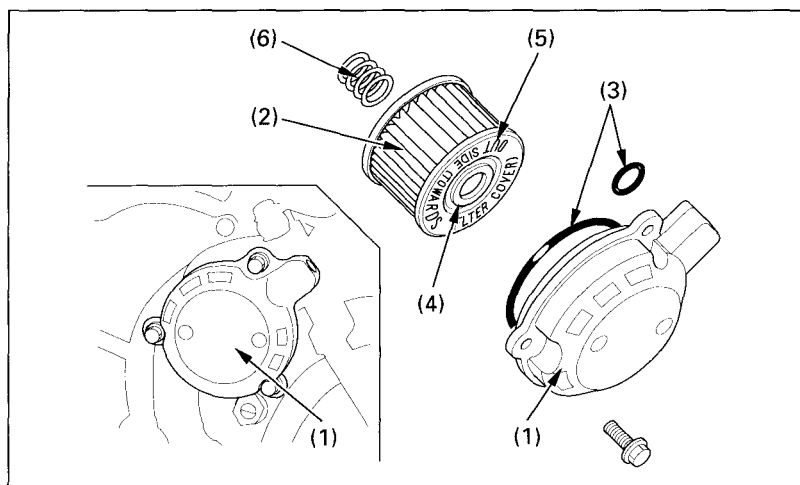

Fig. 4-14
(1) Oil drain plug
3. Remove the oil filter cover (1) (Fig. 4-14) by removing the bolts. Let the remaining oil drain out. Discard the oil filter (2).
4. Check that the oil filter cover O-rings (3) are in good condition and then install a new oil filter. Use only the Honda genuine oil filter or a filter of equivalent quality specified for your model. Using the wrong Honda filter or a non-Honda filter which is not of equivalent quality may cause engine damage.
6. Reinstall the oil filter cover (1), making sure the bolts are tightened securely.